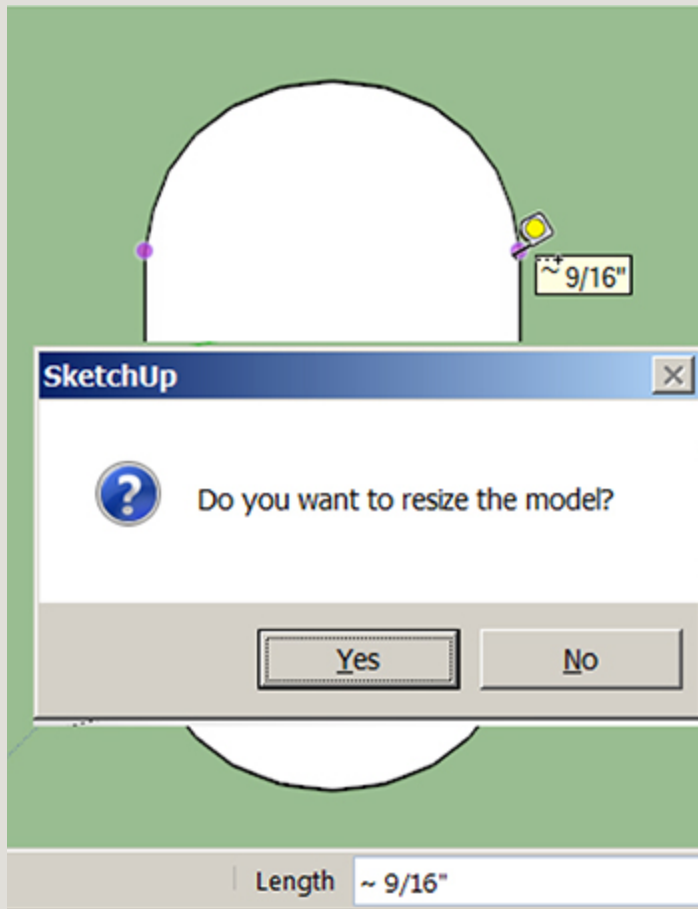

Figure 4-34 Scale the nail to make it 1" long.
10. Scale the nail (Figure 4-34). Measure the width of your fingertip, click the Tape